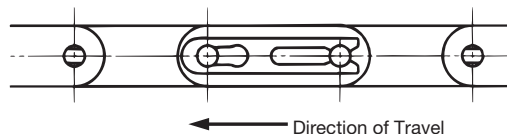

Figure 21: Spring Clip Installation
- 3) In general, the spring clip should be installed in the direction opposite to chain travel, as shown in the drawing below (Figure 21).